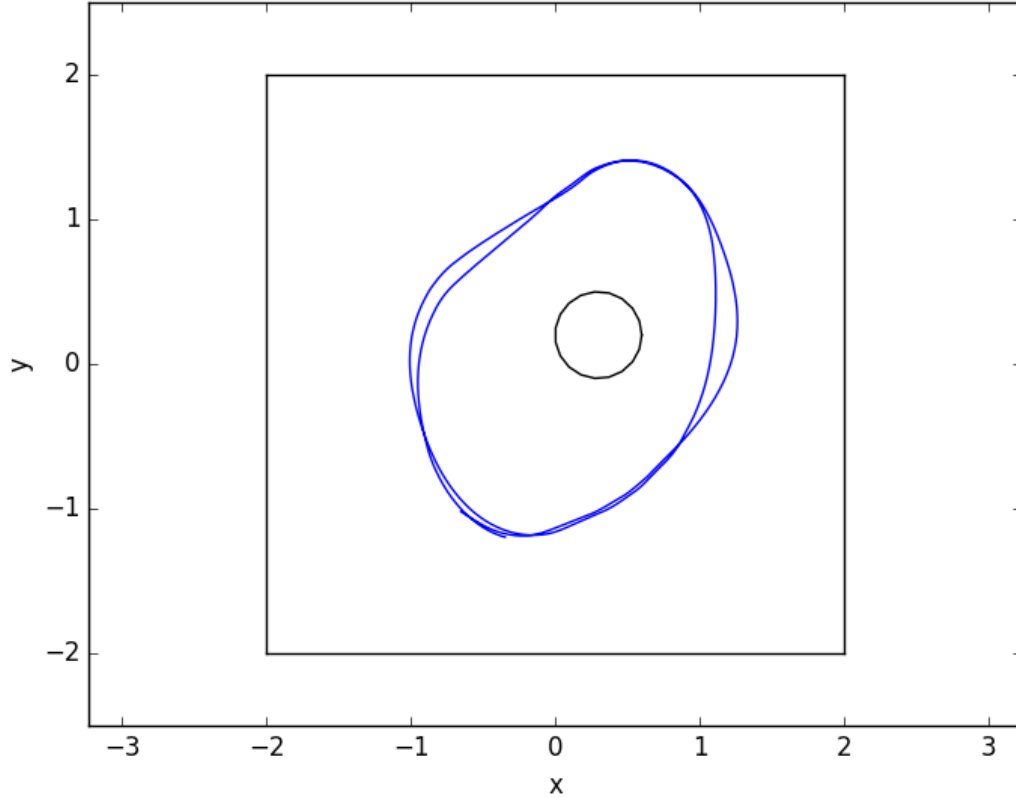

Figure 4: Braitenberg controller
- (a) The plot of my braitenburg controller is shown in Figure 4. The velocity decreases as the robot approaches an obstacle (according to the log function). The velocity is a function of the reciprocal of the sensors. Using the reciprocal allows the case where the obstacle is further than 3.5 (infinity) becomes 0. For the rotational velocity, this is also function of the reciprocal of the sensors - when the robot is close to an obstacle, it should rotate faster to get away. Since we want to move away from obstacles (the 'coward' example from lecture 4), the rotational velocity will increase (counter-clockwise) if the robot senses it is closer to objects on the right, and vice versa for objects on the left. Both velocities are made up of weighted components of the individual sensor values. I estimated and tuned these weights by trial and error. The result is a matrix multiplication of the weights by the sensor values to produce a column vector of u and v .